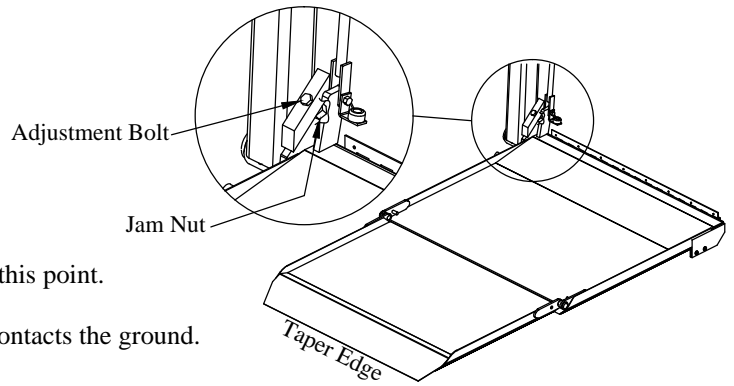

Figure 18: Unfolded 650 platform.
2. **Loosen** the jam nut (Figure 18).